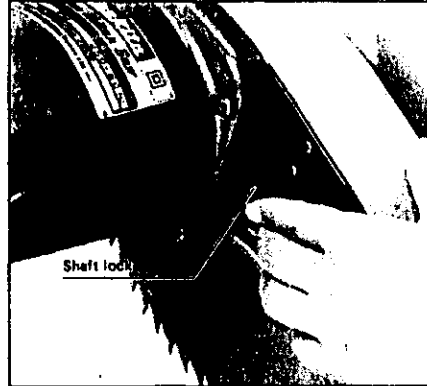

Fig. 1
* Is the saw blade installed correctly?	Fig. 1, 2